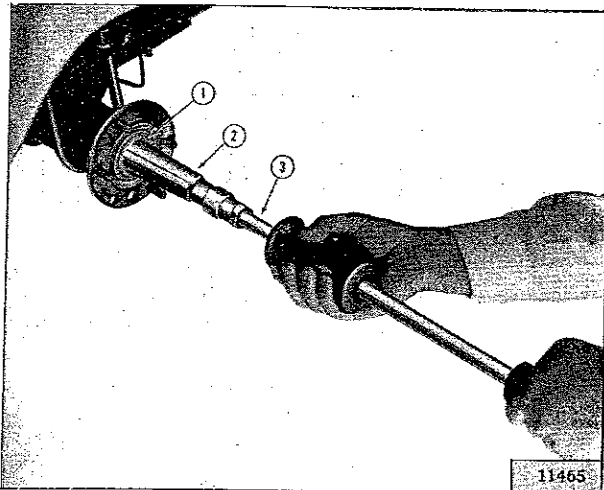

FIG. N-5—REMOVING TAPERED AXLE SHAFT
i. Using Tool C-637 and Adapter Tool SP-342, remove the axle shaft bearing cone, roller, and cup as shown in Fig. N-5.